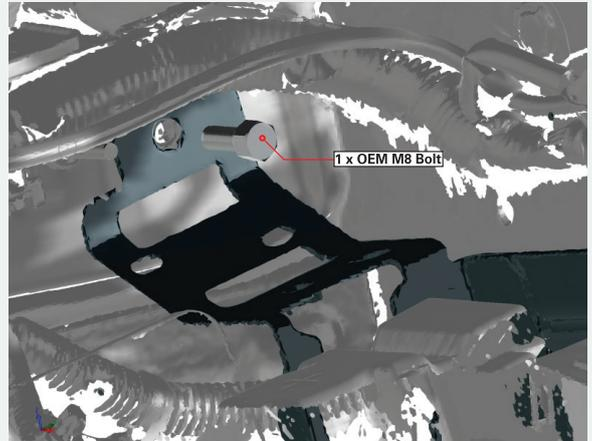

FIGURE 2B
- 5 Unscrew the OEM M8 bolt shown in FIG. 2B. Place this M8 bolt with the other 2 OEM M8 bolts as you will be using these to fit the Ryco FB9817FC bracket later.